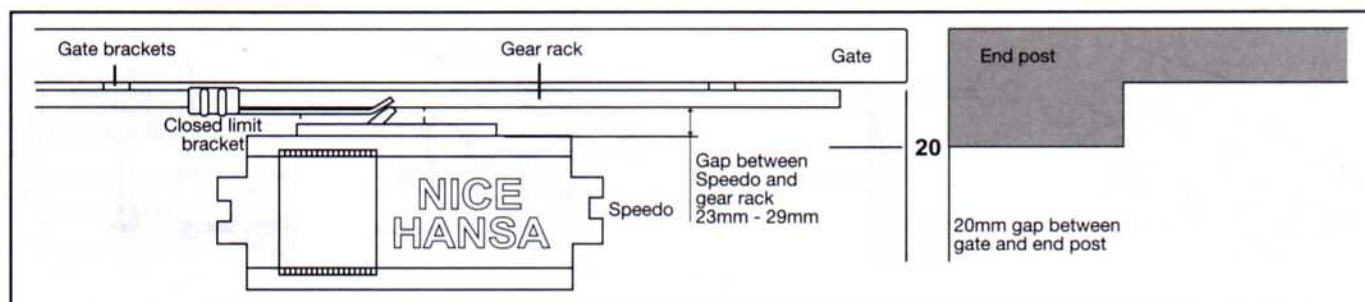

Figure 10
3. Perform the same operation for the closed position limit switch. See figure 10